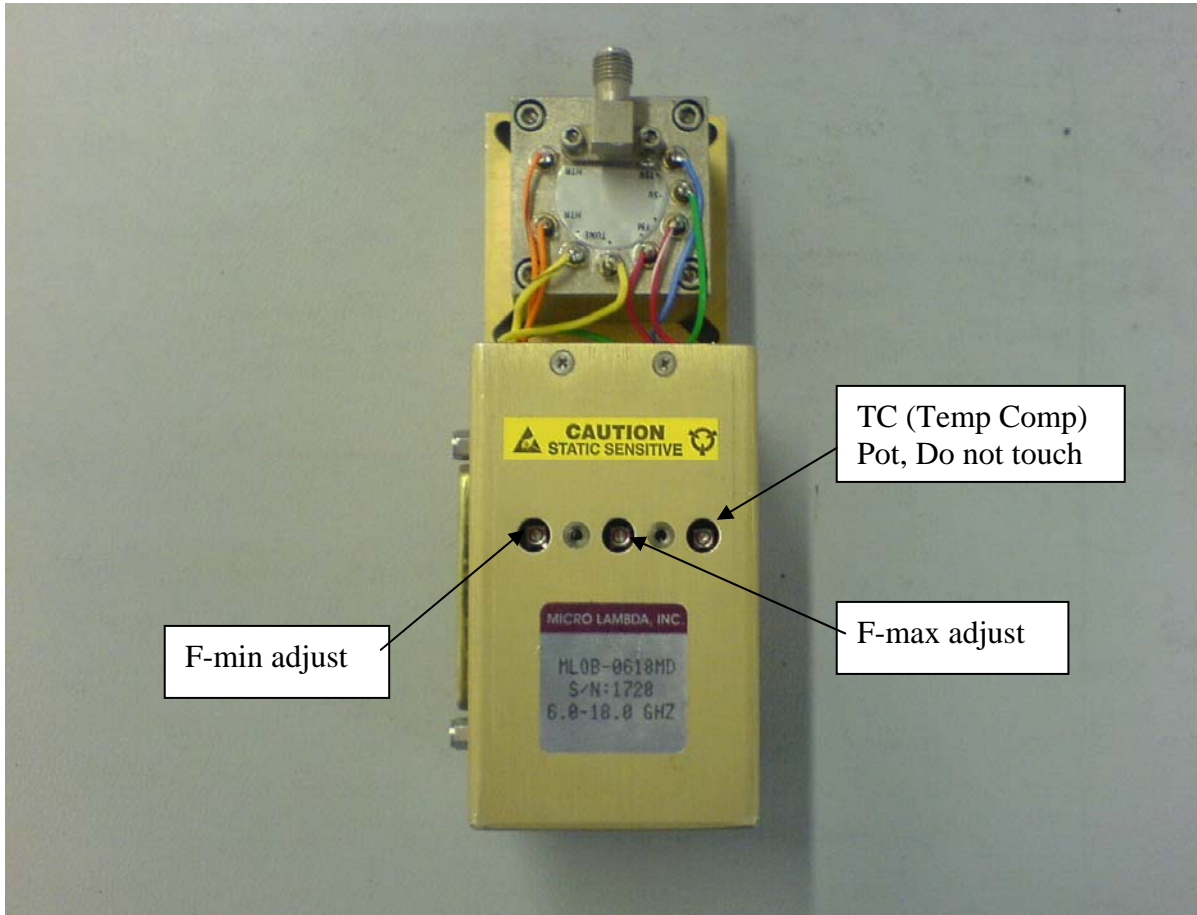

Figure 1
Adjustment cover plate found mounted on top of the driver housing. Figure 1.
- F) See the appropriate figure for your driver type and find the two adjustment locations. NOTE ! There is a third adjustment pot which sets the temperature compensation of the driver circuit. Figure 1, 3 and 5 indicate T/C. This pot should never be adjusted by the customer or user at any time. Failure to comply will void the warranty on the YIG device and driver.